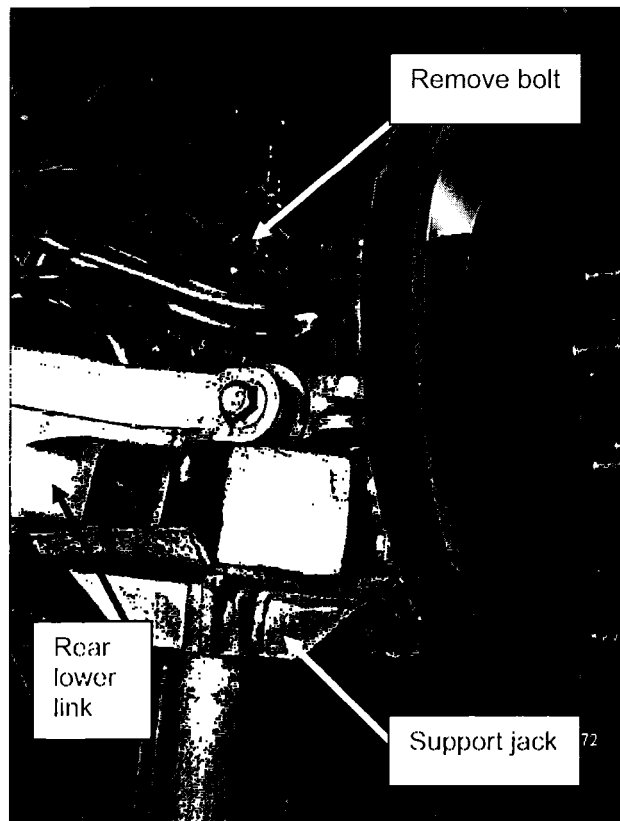

Figure 20
22. Place a support jack under the rear lower link. Then remove the bolt that holds the shock absorber to the knuckle (see Figure 20).